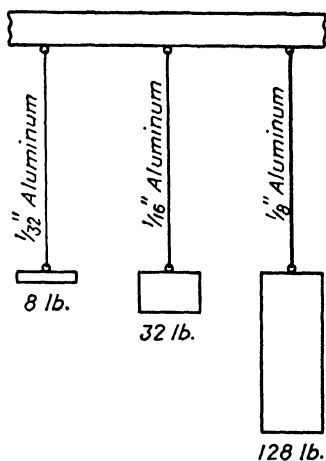

Fig. 208.
B. Demonstration 2. Take three wires, all aluminum, of these diameters: $\frac{1}{32}$ in., $\frac{1}{16}$ in., $\frac{1}{8}$ in., and suspend them as shown in Fig. 208.
Notice that the greater the diameter of the wire, the greater is its tensile strength. Using the data in Fig. 208, complete the following table *in your own notebook*.